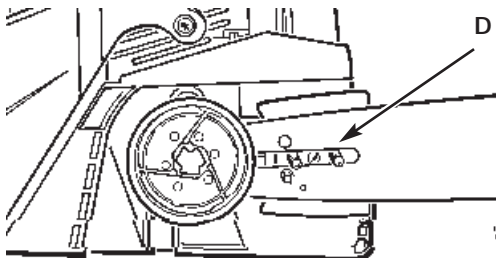

Fig. 23
3. Place the slotted end of the guide bar over the 2 bar bolts (D). Fig. 23